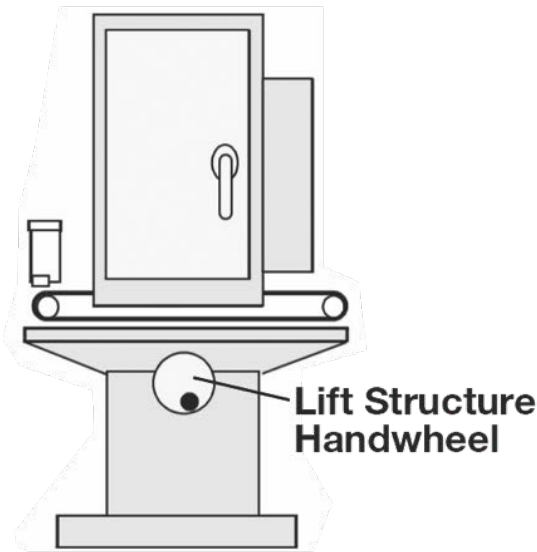

Figure 9-3: Lift Structure Handwheel
5. Release the tension on the abrasive belt by turning the lift structure handwheel counterclockwise to lower the conveyor belt bed (see Figure 9-3).
4. Lower the conveyor belt bed three turns (counterclockwise) of the handwheel (see Figure 9-3).